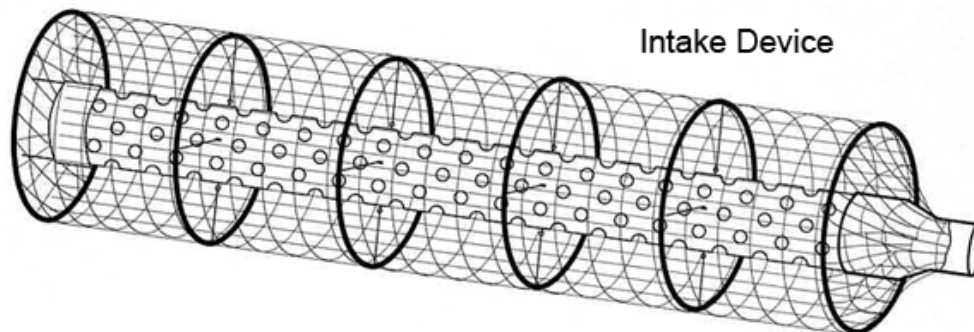

Figure 1, MINNCOR Intake Device (INV# 7070000100)
- 2) **Connect at least 3 discharge pipes** to the Intake Device (see figure 1) before placing it into the water. The discharge pipes come with a male and female end that fit together. The Intake Device with Discharge Pipes attached, should then be placed on the bottom of the pond, streambed, or ditch. If it is in a high sediment area, the Intake Device may be suspended off the bottom using fence posts.